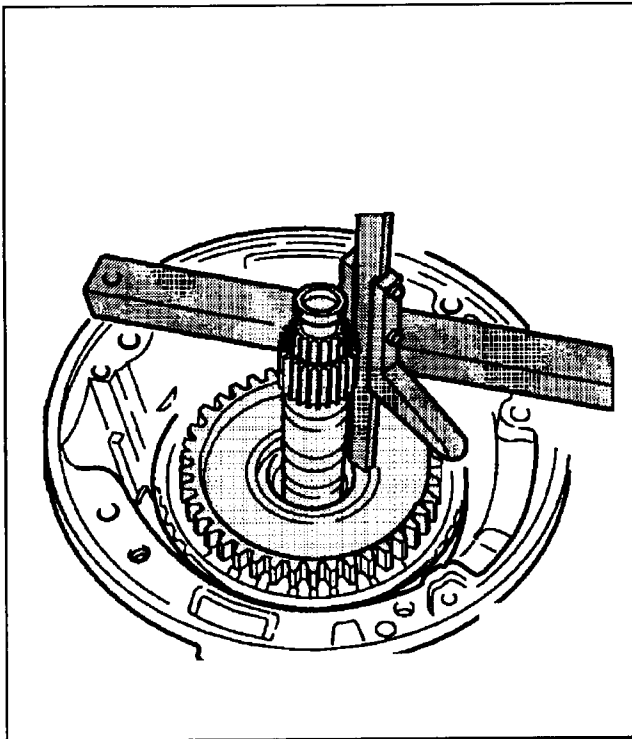

Figure 154
2. Calculating "A": Place a straightedge onto transmission housing. Press down on K1 drum with washer removed and measure distance into K1 drum with a depth gauge (See Figure 154). Example: Reading 1 = 88.5 mm).